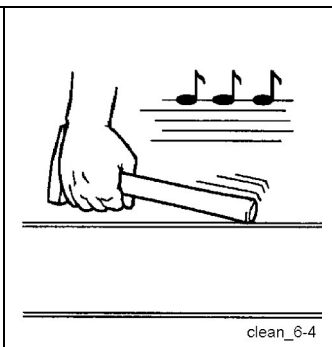

Fig. 246 High-pitched sounds
- If the concrete and sponge rubber ball have passed the tapping point, the tapping will produce a high-pitched sound **(Fig. 246)**.